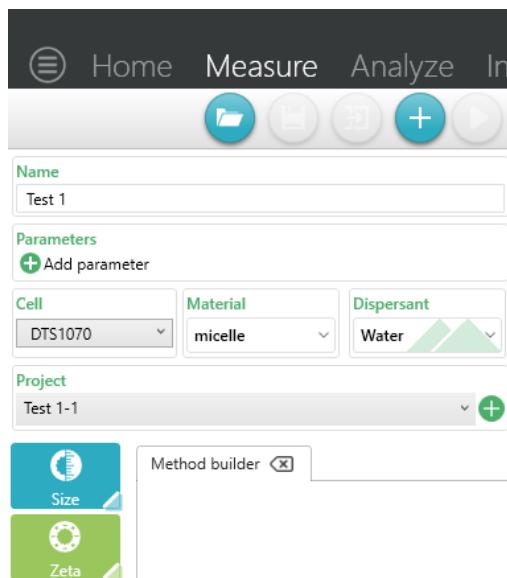

Figure 2. The parameters that need to be set in the “Measure” tab.
4. Once the software is opened, click on the “Measure” tab and set the various parameters (**Figure 2**):